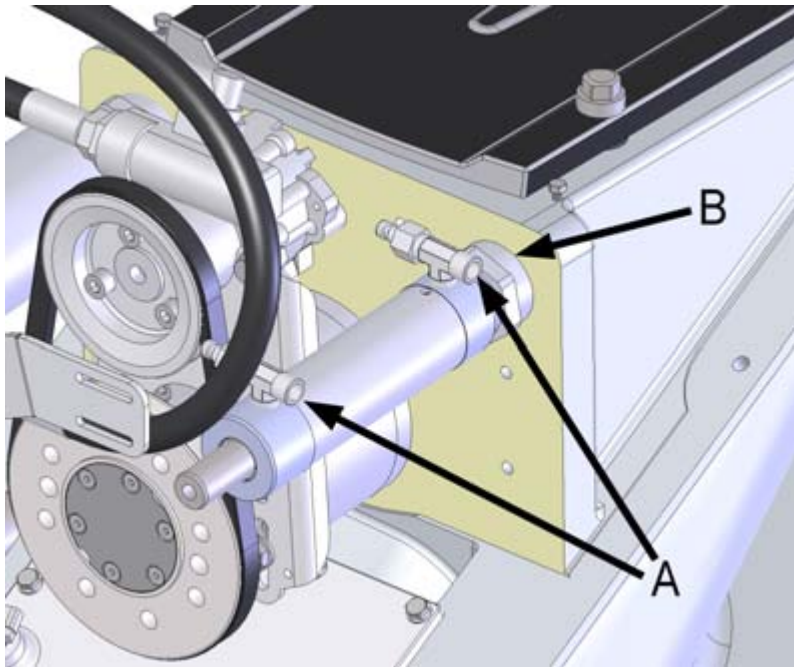

Figure 88. Cylinder hydraulic hoses
1. Remove the hydraulic hoses from the cylinder (figure 88, point A).
3. Open the fastening nut of the cylinder (figure 88, point B).